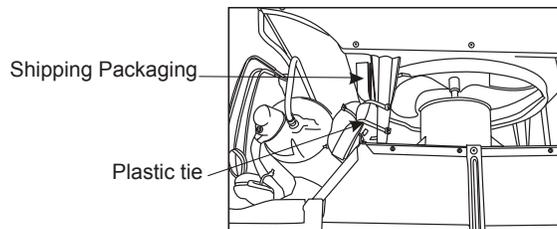

Fig. 7
10. Your unit may come with internal packaging. This packaging **MUST** be removed prior to installing the air conditioner back into the cabinet. (See Fig. 7.)